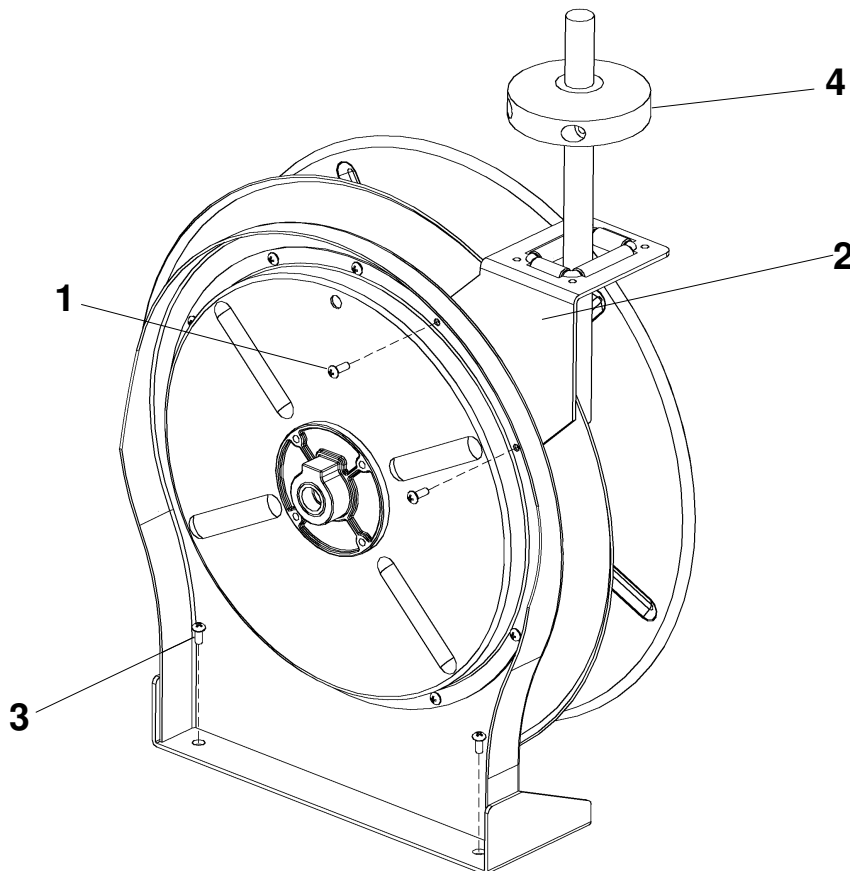

FIG. 2
2. Configure reel for top, side or bottom hose dispensing by removing the screws and nuts (item 1, Fig. 2) from the guide arm bracket (item 2) and re-positioning the bracket to the desired location. Secure the bracket in the new location with the screws and nuts provided in that location. Re-insert and securely tighten the original screws and nuts in their original location.
3. Position the reel base to floor, wall or ceiling. Secure into place using four (customer supplied) fasteners (item 3, Fig. 2). **CAUTION: Reel is heavy – mount securely! Recommended mounting hardware: 1/4" X 1-1/2" (6mm X 40mm) lag screws with washers. If mounting over head, provide safety chain between reel base and mounting surface to prevent accidental reel drop.** For installation on a wood, drywall or stucco surface, mount the reel to a 2" (51 mm) thick piece of lumber that has been fastened into studs. For installation on a brick, cement, cinder block or other hard surface, insert aluminum anchors into the hard mounting surface before mounting the reel.
Adjust hose bumper (item 4, Fig. 2) by loosening clamping screws. Slide bumper into desired position and tighten the screws.